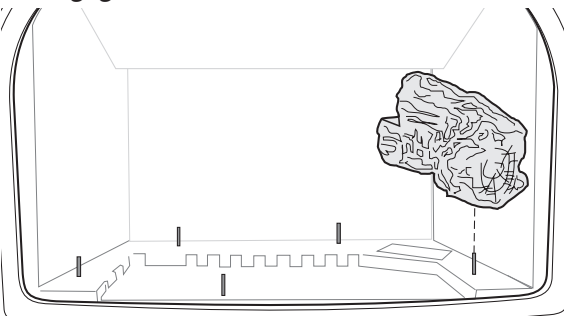

Figure 11. Install Rear Log.
1. Engage the holes in the underside of the Right Log with the peg in the burner skirt as in fig. 11.